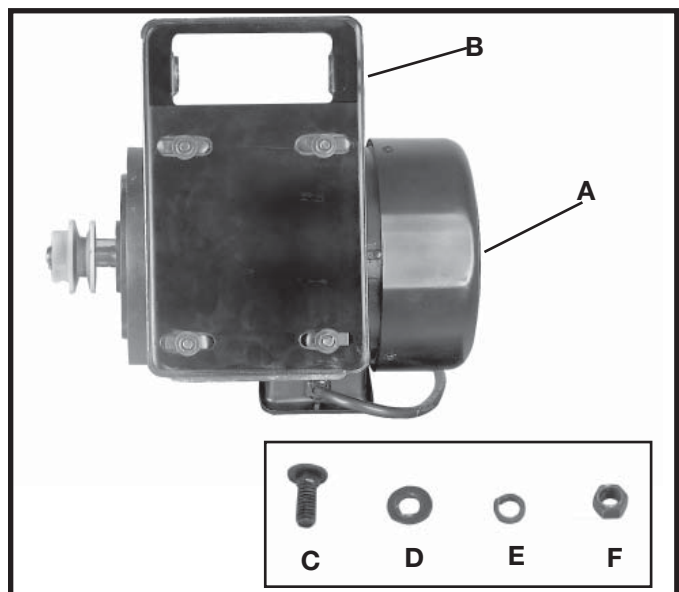
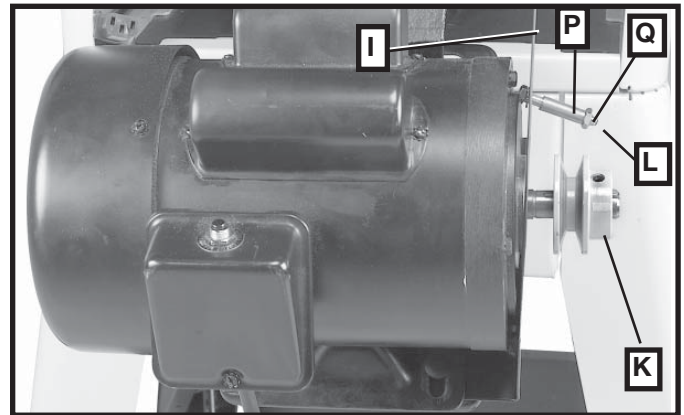
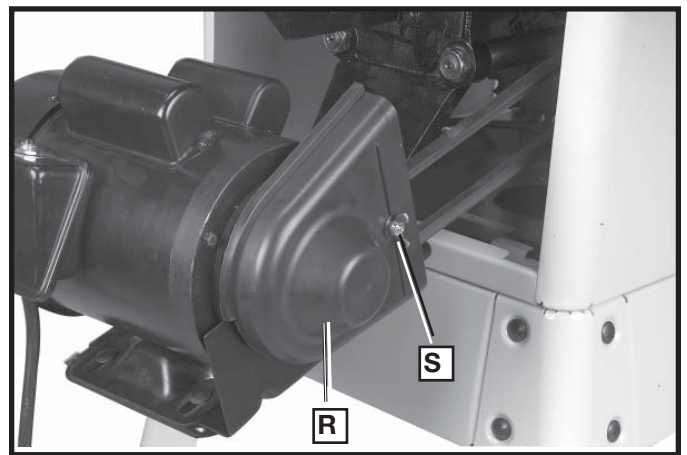

Fig. 31
Fig. 37
Fig. 40
Assemble motor (A) to motor mounting plate (B) as shown in Fig. 31. Align the four mounting holes in the motor with the four holes in the mounting plate. Insert a $\frac{5}{16}$ -18x $\frac{3}{4}$ " Carriage Bolt (C), through the hole in motor and then through the hole in the motor mounting plate, place a $\frac{5}{16}$ " Flat Washer (D), then a $\frac{5}{16}$ " External Tooth Washer (E) onto the carriage head bolt, and fasten with a $\frac{5}{16}$ -18 Hex nut (F). Repeat this process for the three remaining holes in the motor and the motor mounting plate.
- Position belt and pulley guard bracket (I) Fig. 37, so the motor pulley (K) is centered and through the hole in the belt and pulley guard bracket (I), as shown in Fig. 37. Tighten the four hex nuts (C) Fig. 31 that fasten the motor to the motor mounting plate.
- Using a straight edge, align the motor pulley with the arbor pulley in the saw cabinet. If necessary, adjust the motor pulley (K) Fig. 37, in or out on the motor shaft.
- ⚠ WARNING** IMMEDIATELY AFTER ASSEMBLING THE BELT, RAISE THE SAW BLADE TO ITS MAXIMUM HEIGHT AND TILT THE SAW BLADE TO 45 DEGREES. USING A STRAIGHT EDGE (M) FIG. 39, CHECK TO SEE IF THE MOTOR END (N) FIG. 39, IS BELOW THE TOP OF THE TABLE SURFACE (O). IF THE MOTOR END IS ABOVE THE TOP OF THE TABLE SURFACE, LOOSEN THE FOUR HEX NUTS (F) FIG. 31, RE-POSITION MOTOR AND THEN RETIGHTEN THE NUTS. THEN, RE-ALIGN THE MOTOR PULLEY (K) FIG. 38 TO THE ARBOR PULLEY.
9. Place a ¼" flat washer and then a spacer (P) onto the ¼-20x1-1/2" hex head screw (L) Fig. 37. Then thread a ¼-20 Hex Nut (Q) Fig. 37, onto the screw post until it tightens the spacer onto the pulley guard (I) Fig. 37.
10. Align the hole (S) Fig. 40 in the belt guard (R) with the ¼-20x1 ½" hex head screw (L) Fig. 37. Place the screw through the hole in the belt guard (R) Fig. 40. Place a ¼" External Tooth Lockwasher onto the hex head screw and thread a 1/4-20 Wing Nut onto the hex head screw, and tighten securely.